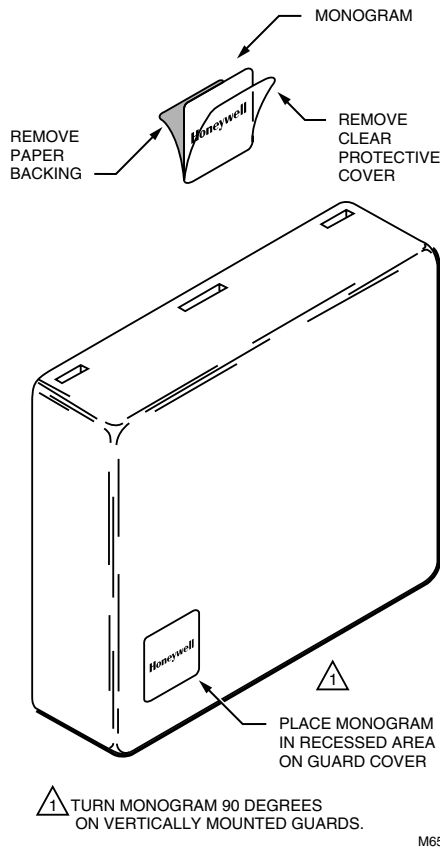

Fig. 9. Apply monogram to thermostat guard (TG510, TG511, TG512 shown).
- 7 Remove the paper backing and clear protective cover from the included monogram and place the monogram in the recessed area on the guard cover. See Fig. 9.
- 11 Remove the paper backing and clear protective cover from the included monogram and place the monogram in the recessed area on the guard cover. See Fig. 9.
- 12 Remove the paper backing and clear protective cover from the included monogram and place the monogram in the recessed area on the guard cover. See Fig. 9.
- ⓯ Remove the paper backing and clear protective cover from the included monogram and place the monogram in the recessed area on the guard cover. See Fig. 9.